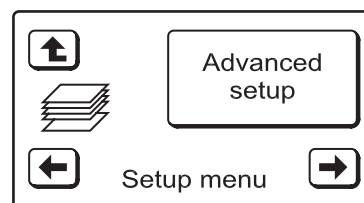

FIG. 25
2. Press the LEFT (←) button twice to display the screen shown in Figure 25.